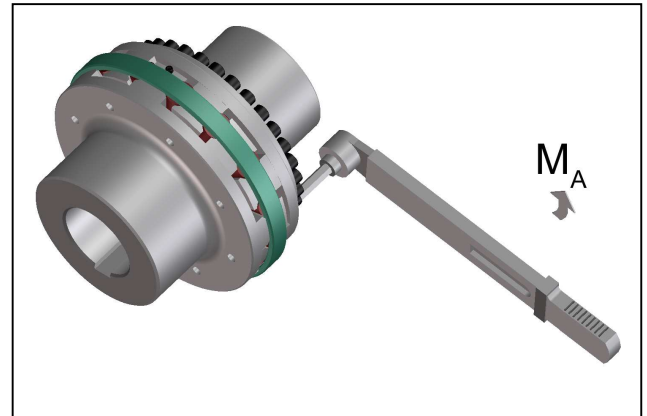

Fig. 11
- Tighten the bolts to the torque M_A specified in table 9 (Fig. 11).